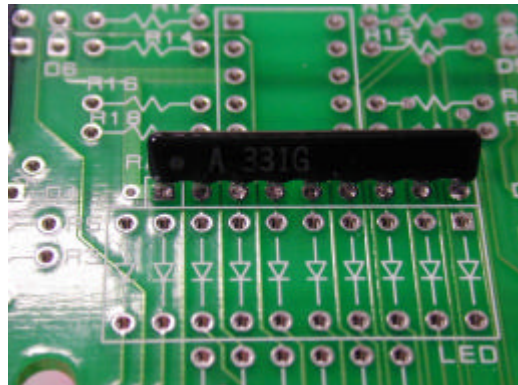

Fig 2.12
(19) Disconnect flat cable completely. Turn off power. Disconnect connector at position J9. Remove the CPU board.
(20) Insert the 330 $\Omega$ (331) 9PIN array resistor in position RA1. Solder. (Refer to Fig 2.12)